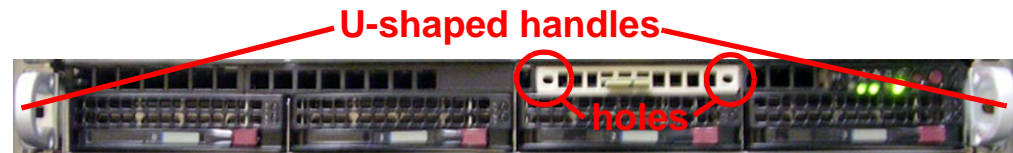

Fig. 4 - Front of chassis with U-shaped handles and holes above third hard drive identified
C. Note the end pin holes (Fig. 5) on the inside of the U-shaped, aluminum rail handles on both ends of the chassis rails (Fig. 4: U-shaped handles). Note also that the holes for the longer pair of pins are located on the front of the chassis above the third hard drive bay (Fig. 4: holes).
E. Align the bezel with the front of the chassis, and then gently push the bezel towards the front of the chassis, inserting the pins on the inside of the bezel (Fig. 3) into the holes on the front of the chassis (Fig. 4: holes).
F. Press in the release knob on the right side of the bezel to retract the end pins on that side (Fig. 6), and then release the knob to let the end pins extend into the holes of the right U-shaped handle (Fig. 4: U-shaped handles).